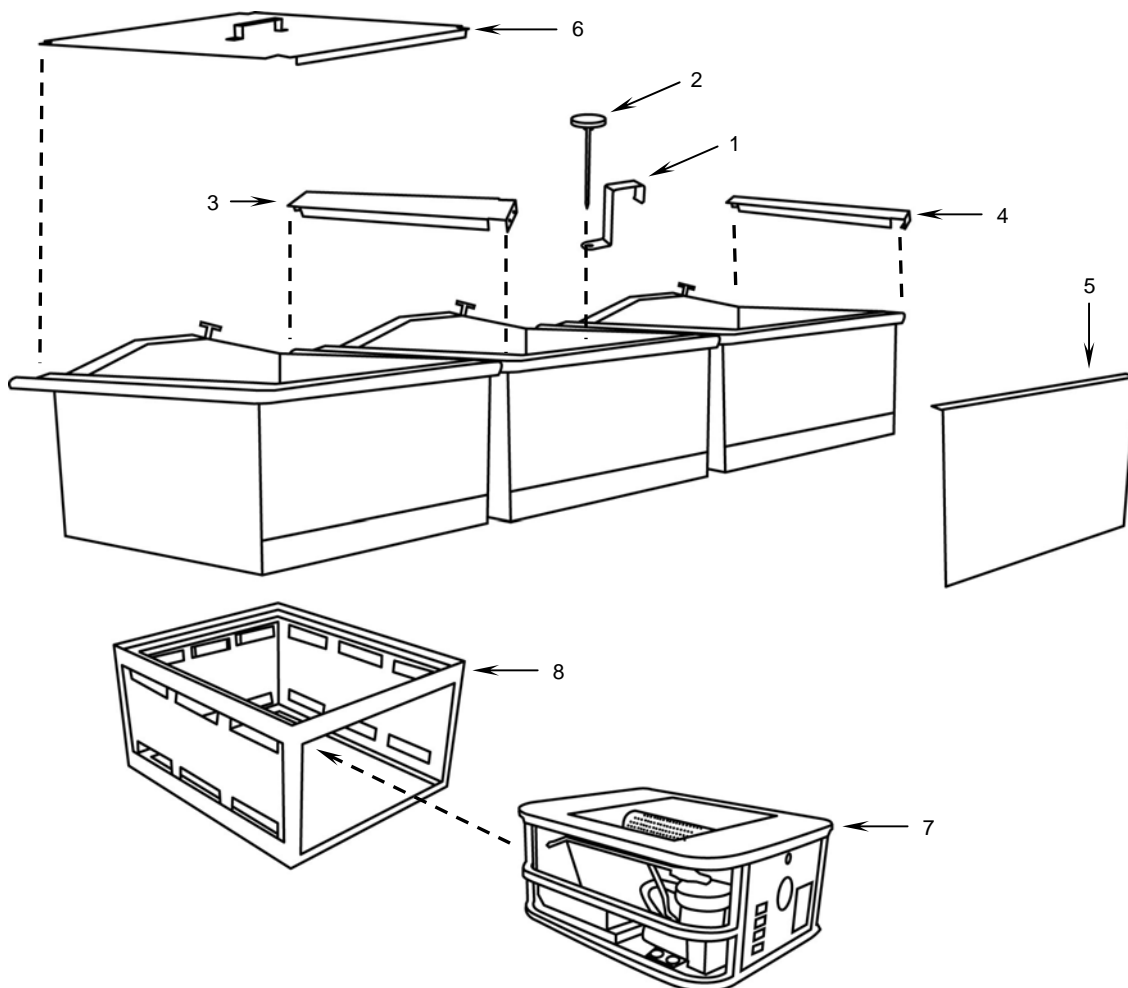

Figure 13. Sink Accessories Installation.
- h. Attach thermometer bracket (**Figure 13, Item 1**) with thermometer (**Figure 13, Item 2**) to the right side of each sink.
- i. Connect adjoining sinks with the two sink coupler heat shields (**Figure 13, Item 3**) by clipping the front of the couplers over the sink first and then the back of the couplers.
- j. Install the sink edge heat shield (**Figure 13, Item 4**) on the right edge of the right sink by clipping the front of the sink edge heat shield over the sink first and then the back of the sink edge heat shield.
Do not install the sink front heat shields (**Figure 13, Item 5**) at this time. They will be installed later after the MBUs are installed, fueled, and started.
- k. Place the sink covers (**Figure 13, Item 6**) on the sinks.
- l. Install the MBUs (**Figure 13, Item 7**) into the burner racks (**Figure 13, Item 8**) with the controls facing out. Make sure the MBUs are pushed all the way back in the burner racks.